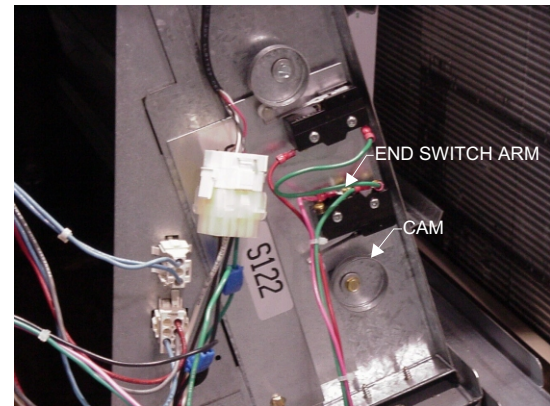

Figure 5
- 8- Locate the provided end switch assembly. Install the end switch bracket onto the economizer by removing the two (2) bottom screws securing the economizer. Match the end switch assembly up to these two (2) screw holes and reinstall the mounting screws. **See Figure 5.**
- 9- Install the cams on the economizer blade pivots with the #10-32 x 1/2" screw and washer but do not tighten. The cam will trip the end switch S122 when the damper rotates. Set the end switch arm so that it closes when the fresh air dampers are open 50% or greater. Tighten screw to secure cam. For end switch S132 the cam needs to open the normally closed end switch when economizer is moved from minimum position to closed (night set back). **See Figure 5.** Damper rotation will close the normally open end switch S122 to prevent ERS operation during economizer free cooling except power exhaust blowers.